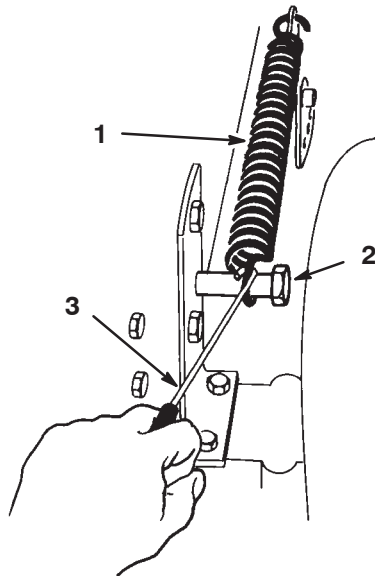

Figure 44
- Hook the lift assist spring between the mower right side lift bracket and the retaining bolt (Fig. 44).